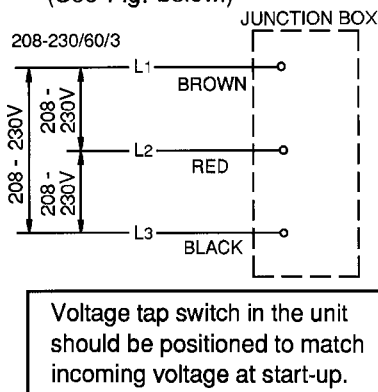

Fig. 6a
- On three phase models, the Voltage Tap Switch in the unit should be positioned to match incoming voltage at start-up. See Fig. 6a